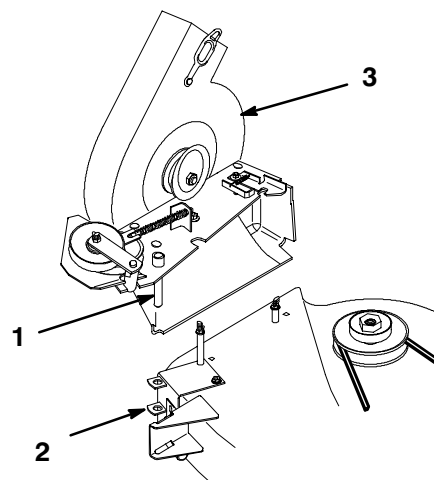

Figure 12
4. Install the blower by lowering the pivot pin into the pivot support (Fig. 12).